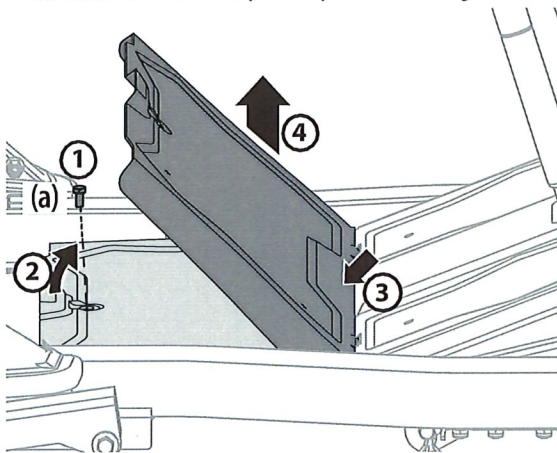

Figure 24
1. Using the multi-tool or a 1/2" socket, remove the hex screw (a) that secures the floor panel in place. See 1 in Figure 24.
2. Carefully lift the rear of the floor panel. See 2 in Figure 24.
3. Slide the floor panel rearward to free the front of the floor panel. See 3 in Figure 24.
4. Lift it off the tractor. See 4 in Figure 24.